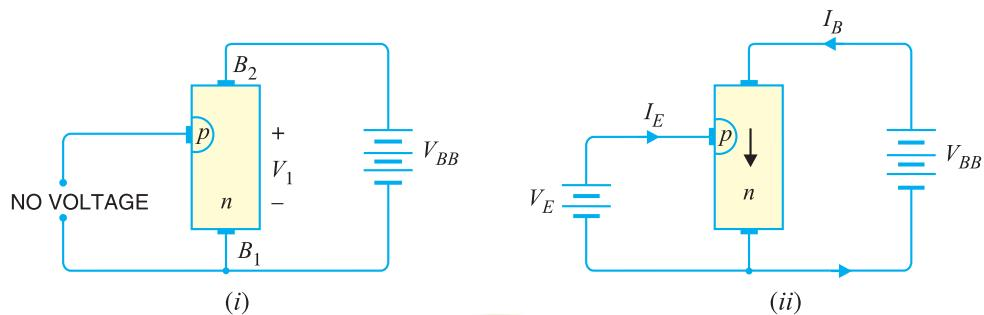

Fig. 21.25
Operation. Fig. 21.25 shows the basic circuit operation of a unijunction transistor. The device has normally B_2 positive w.r.t. B_1 .
- (i) If voltage V_{BB} is applied between B_2 and B_1 with emitter open [See Fig. 21.25 (i)], a voltage gradient is established along the *n*-type bar. Since the emitter is located nearer to B_2 , more than **half of V_{BB} appears between the emitter and B_1 . The voltage V_1 between emitter and B_1 establishes a
(ii) If a positive voltage is applied at the emitter [See Fig. 21.25 (ii)], the *pn* junction will remain reverse biased so long as the input voltage is less than V_1 . If the input voltage to the emitter exceeds V_1 , the *pn* junction becomes *forward biased. Under these conditions, holes are injected from *p*-type material into the *n*-type bar. These holes are repelled by positive B_2 terminal and they are attracted towards B_1 terminal of the bar. This accumulation of holes in the emitter to B_1 region results in the decrease of resistance in this section of the bar. The result is that internal voltage drop from emitter to B_1 is decreased and hence the emitter current I_E increases. As more holes are injected, a condition of saturation will eventually be reached. At this point, the emitter current is limited by emitter power supply only. The device is now in the *ON* state.